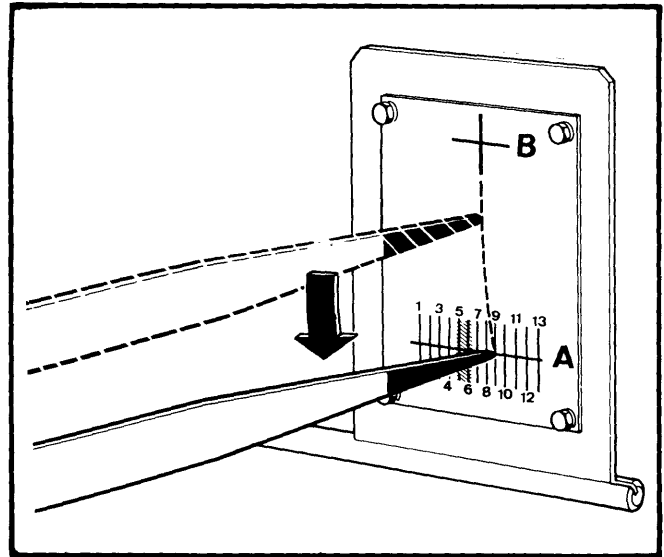

Fig. 2 Scale Board for Reading Steering Box Height
3) Remove axle compression tool and raise vehicle slowly, with a jack (located in center of lower front crossmember). During this operation, the pointer of the measurement tool will have followed a curve from point "B" to one of the figures on scale "A" (See Fig. 2). Read and record the nearest figure on scale boards on both sides of vehicle. Steering box height setting is correct if pointer is within 6-7.75" (152-197 mm) R-12, 15, 17, or 7.5-9" (190-229 mm) R-5, reading on scale.